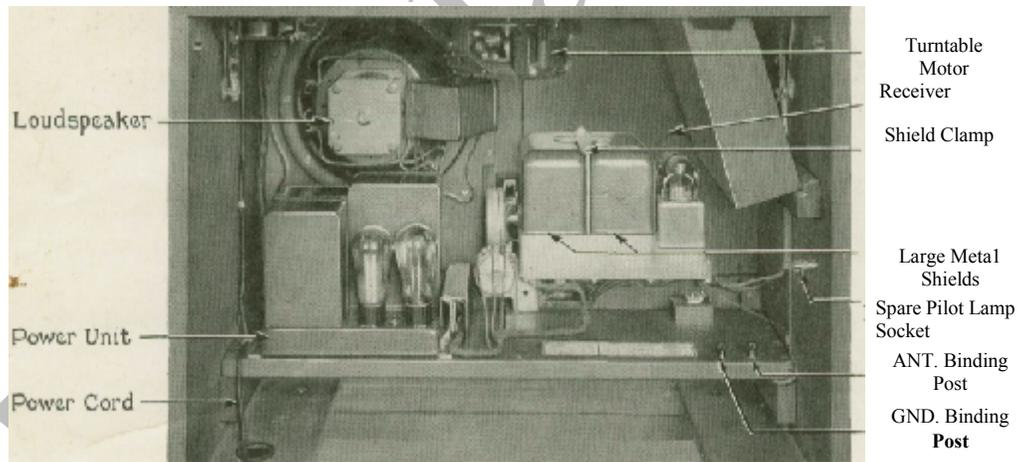
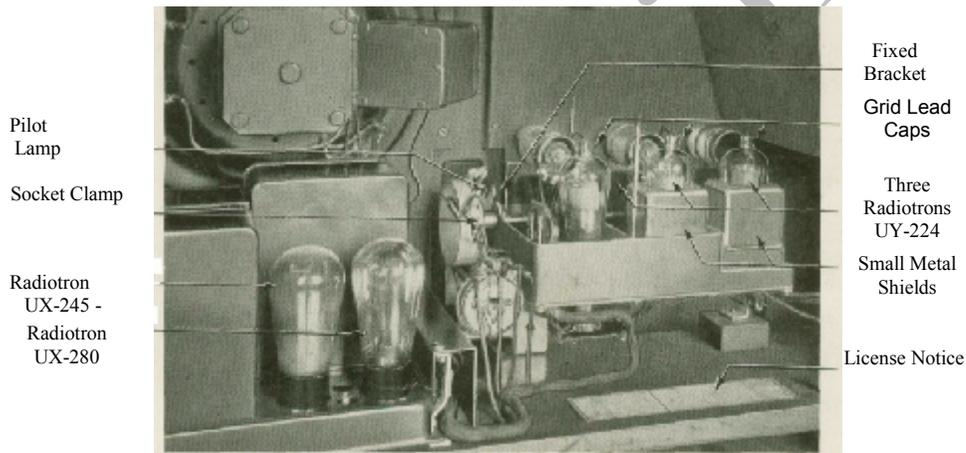
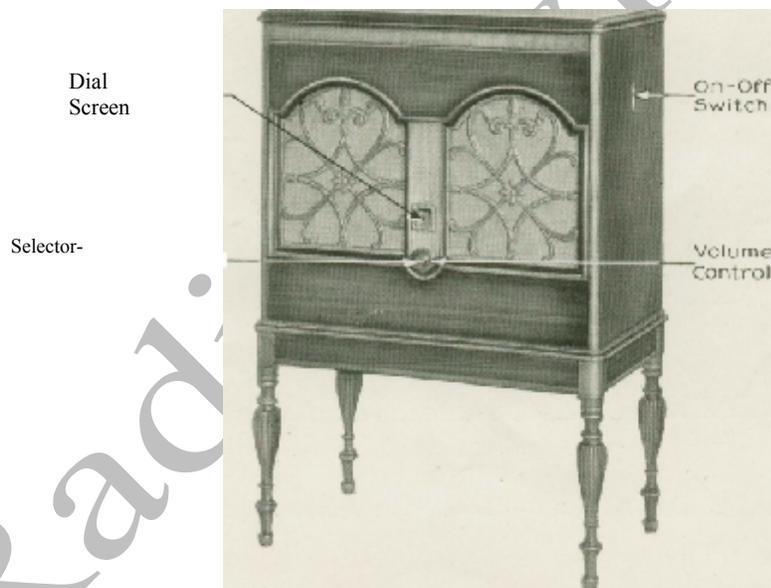

Fig. 2. Rear View of RCA Radiola 47 with Cover Removed
Fig. 3. Rear View with Large Metal Shields Removed—Showing Radiotrons and Pilot Lamp Mounting (Pilot Lamp Socket Clamp Slides over Fixed Bracket)
Fig. 4. RCA Radiola 47—Showing Radio Controls
3. Remove the paper wedges from the turntable motor (Fig. 2) so that the disc will rotate freely.
Power Cord—Unwrap the power cord and bring it out through the round hole in the bottom of the cabinet, as shown in Fig. 2.
The antenna and ground leads should be of insulated wire, No. 14 gauge or larger. Bring them into the cabinet through the large opening in the bottom. Connect the antenna lead to the "ANT" binding post and the ground lead to the "GND" binding post (see Fig. 2 and 6).
Loudspeaker—Make certain that all connections are secure at the loudspeaker terminals (see Fig. 2 and 6).
Power Supply—RCA Radiola 47 should never be connected to any circuit supplying other than alternating current, within the rated limits of voltage and frequency (cycles) specified on the license notice (see Fig. 3). Failure to observe this may result in damage to the Radiola. If there is any doubt about the rating of the house lighting circuit, consult the Electric Light and Power Company before connecting the Radiola (see also "AC Line Voltage", Part II).
Metal Shields and Radiotrons—Remove the shield clamp (Fig. 2) and lift out the large metal shields. Handle these shields carefully.
Insert the five Radiotrons, which should always be handled carefully, in the proper sockets as shown in Fig. 3. Be sure that the two large pins of the "UX" Radiotrons enter the large holes, and that the base of each Radiotron rests squarely against the socket. After the Radiotrons are inserted, press the grid lead caps (see Fig. 3) firmly down over the grid contacts of the UY-224 Radiotrons.
Set the On-Off Switch (Fig. 4) to the "ON" position, upward. Make sure that the five Radiotrons are lighted. Snap the On-Off Switch to "OFF".
Push down on the small metal shields to make certain that they are firmly in place (see Fig. 3).
Pilot Lamp—Turn the Selector (Fig. 4) counter-clockwise to the extreme position, so that the pilot lamp mounting will be accessible (see Fig. 3). Remove the socket clamp from the fixed bracket and screw one of the pilot lamps firmly into the socket. Replace the socket clamp on its bracket. Insert the extra bulb into the spare pilot lamp socket. Fig. 2.
Set the On-Off Switch to "ON". With the Selector still in the extreme counter-clockwise position, adjust the socket clamp on the fixed bracket until the zero mark of the scale, projected on the translucent dial screen (Fig. 4), is approximately 1/4 inch below the index pointer. Then switch off the power and replace the rear cover.
Refer to Fig. 4 and proceed as follows:
The characteristics of the circuits connected with the UY-224 socket, adjacent to the selector dial on the receiver unit (see Fig. 3), are such that they have an important bearing on the operation of the Radiola. It is recommended, therefore, that the UY-224 Radiotron in this socket be interchanged with the other UY-224 Radiotrons, using the arrangement which gives the best reception. This arrangement once made, should not be changed.